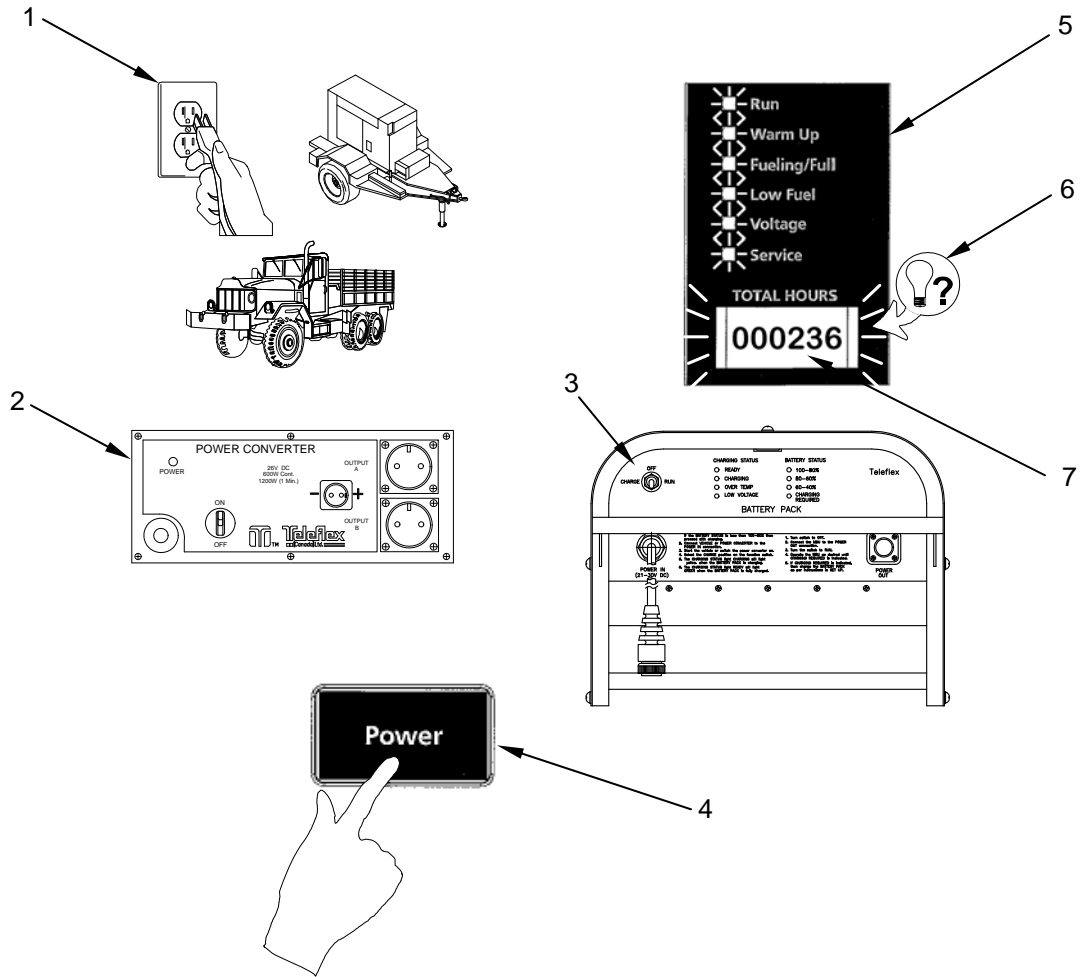

Figure 9. MBU and Associated Equipment Power-up Sequence.
1. Ensure power is available at the source (Figure 9, Item 1). If 110VAC is used, be sure that commercial power is available or that the generator is running. If a vehicle is being used, be sure that it is running.
2. If 110VAC is used, place power converter switch (Figure 9, Item 2) to ON.
3. If the battery pack is used, make sure the 3-position function switch (figure 9, item 3) is in the "RUN" position.
4. Push POWER button (Figure 9, Item 4) on individual MBUs.
5. Verify that the MBU is under power: Indicator lights (Figure 9, Item 5) will flash for about three seconds, and the hour meter background light (Figure 9, Item 6) will illuminate. The hour meter will display a series of characters before displaying the actual accumulated number of operating hours.
6. Observe hour meter reading (Figure 9, Item 7). Note that all required service must be done before operation.